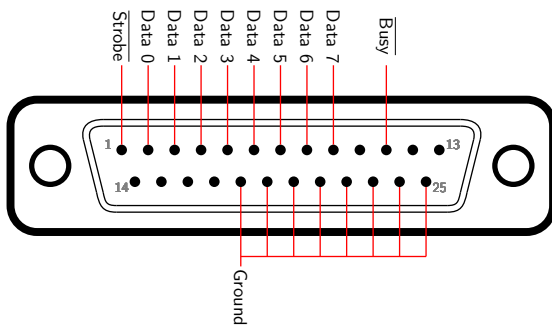

Figure 4.4: DB-25 female connector (solder side).
1. Solder the pins of a female DB-25 connector as shown in Figure 4.4. Note that the pin numbers shown in the diagram are for the solder side of the connector.